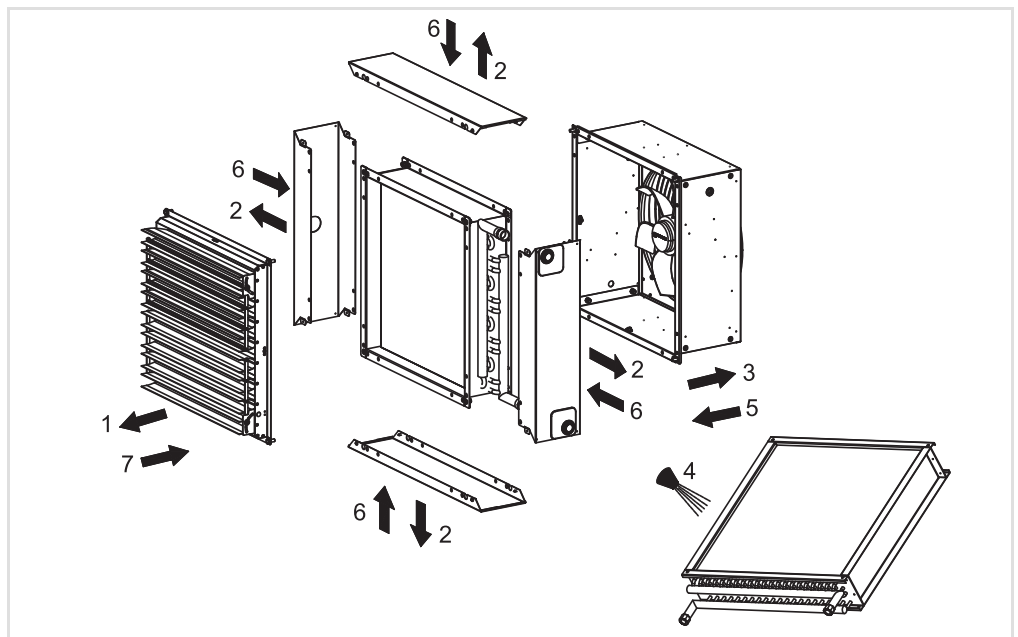

Fig. 8-3: Cleaning heat exchanger
Compressed air or detergents and water shall be used to clean a dirty heat exchanger. Remove the heat exchanger before cleaning it. For the removal procedure the specified sequence (1-3) must be adhered to (see fig. 8-3). Use a warm water jet (4) to clean heat exchanger fins. Replace and assemble all parts of the unit. Consider the sequence of installation steps (5-7) as specified in fig. 8-3. For unit commissioning follow the relevant instructions specified in chapter 7 „Commissioning“.